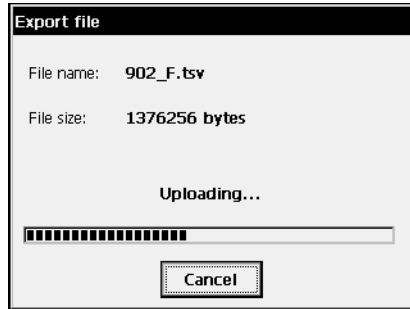

Figure 2-139. Export File
- **Finish:** opens the *Export File* screen reflecting status of exporting the file chosen (Figure 2-139).